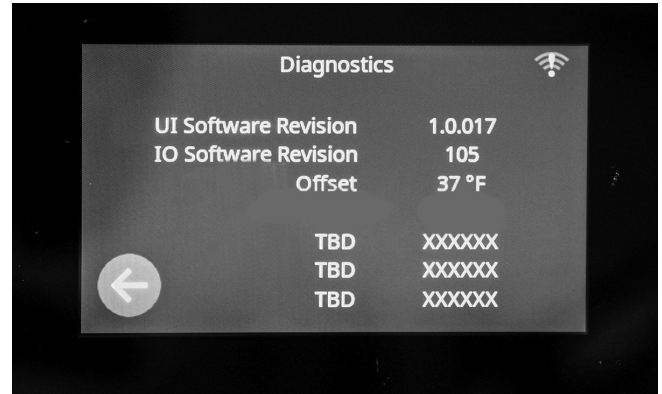

Figure 23
2. Press the Back button or arrow to return to the Home screen. (Figure 23)